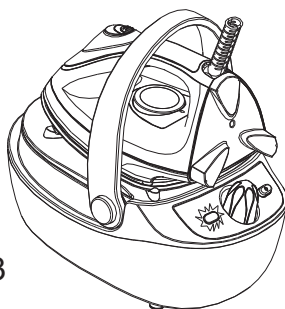

Fig.3
- Heating indicator light lights up when boiler is heating. [Fig.3]